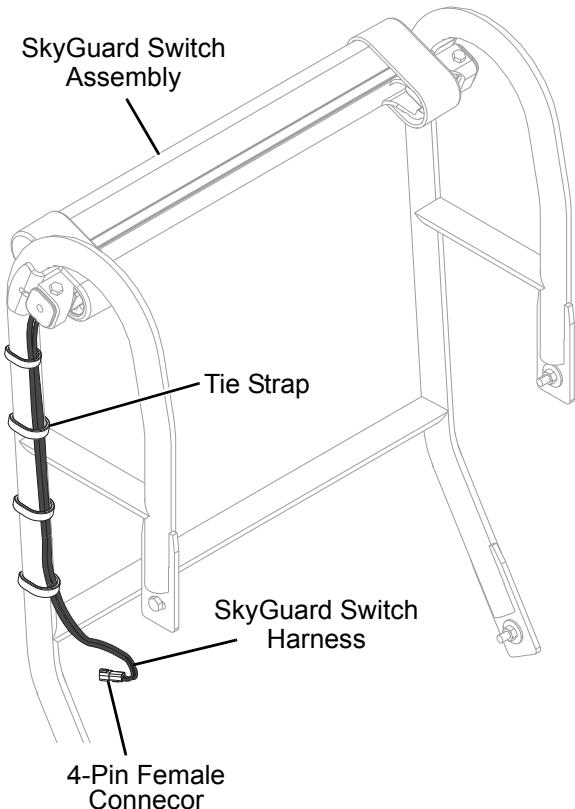

Figure 4-57.
- Route the SkyGuard switch harness along SkyGuard support bracket (right side) and under the platform control box. Secure the harness using tie straps. See *Figure 4-57*.